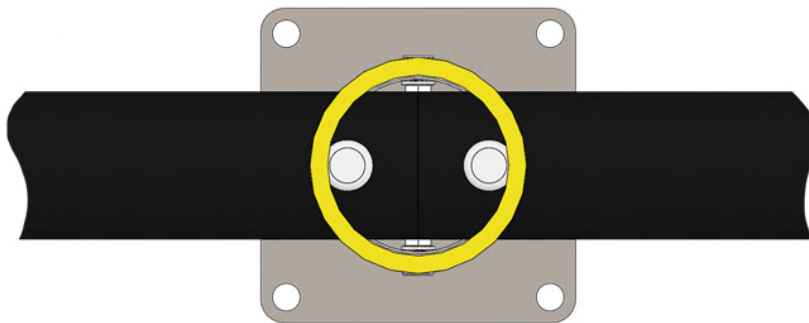

Figure 6. The proper arrangement of two adjacent sections inside connecting post (top view).
3. Insert the pipe of the next section into the opposite hole of this post. In the case of the proper mutual arrangement of the elements of adjacent sections inside the connecting post, the view should be as in Fig. 6.